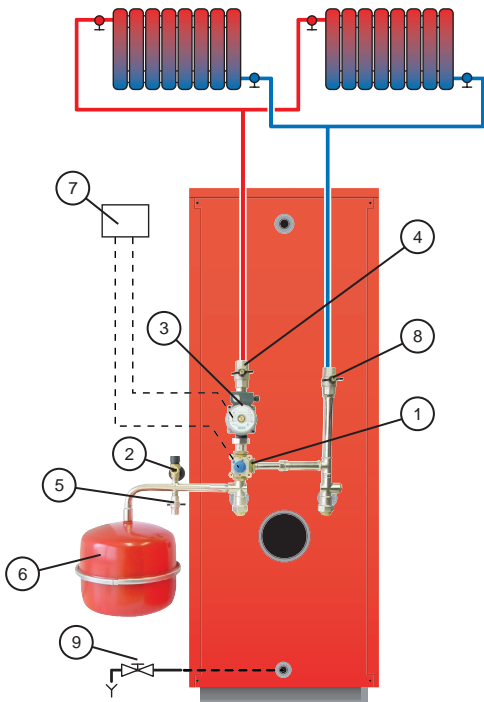

Fig. 18: Heating connection
2. Fill the heating circuit opening valves 4, 5 and 8 - do not exceed a pressure of 2 bar. (Fig. 18, page 13)
Draining the heating circuit (Fig. 18)